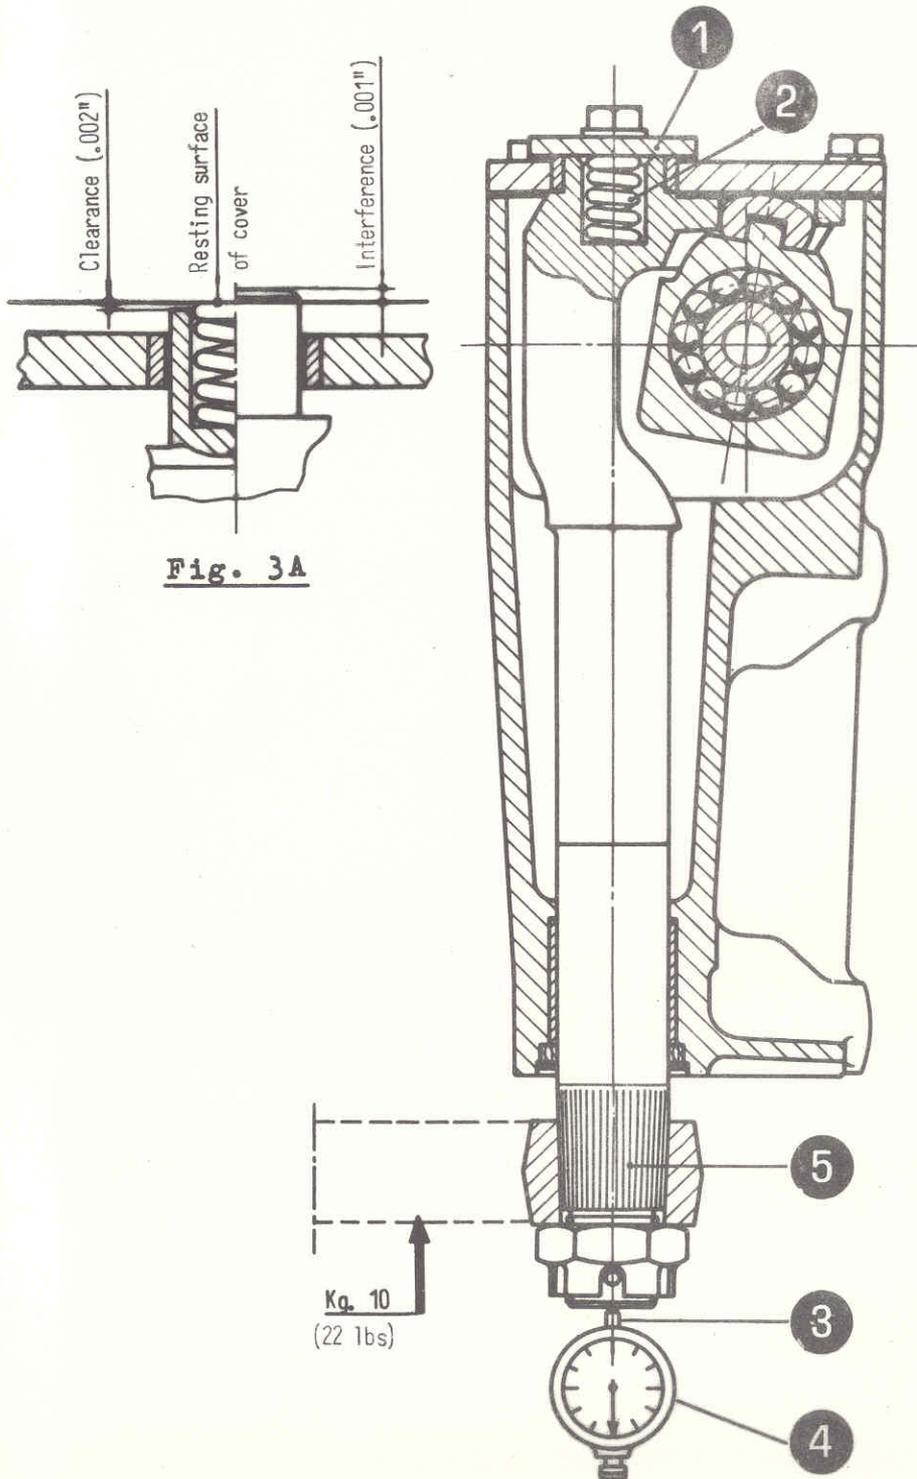

Fig. 3
First take the small cover ① away; (see fig. 3)
- withdraw the spring ②;